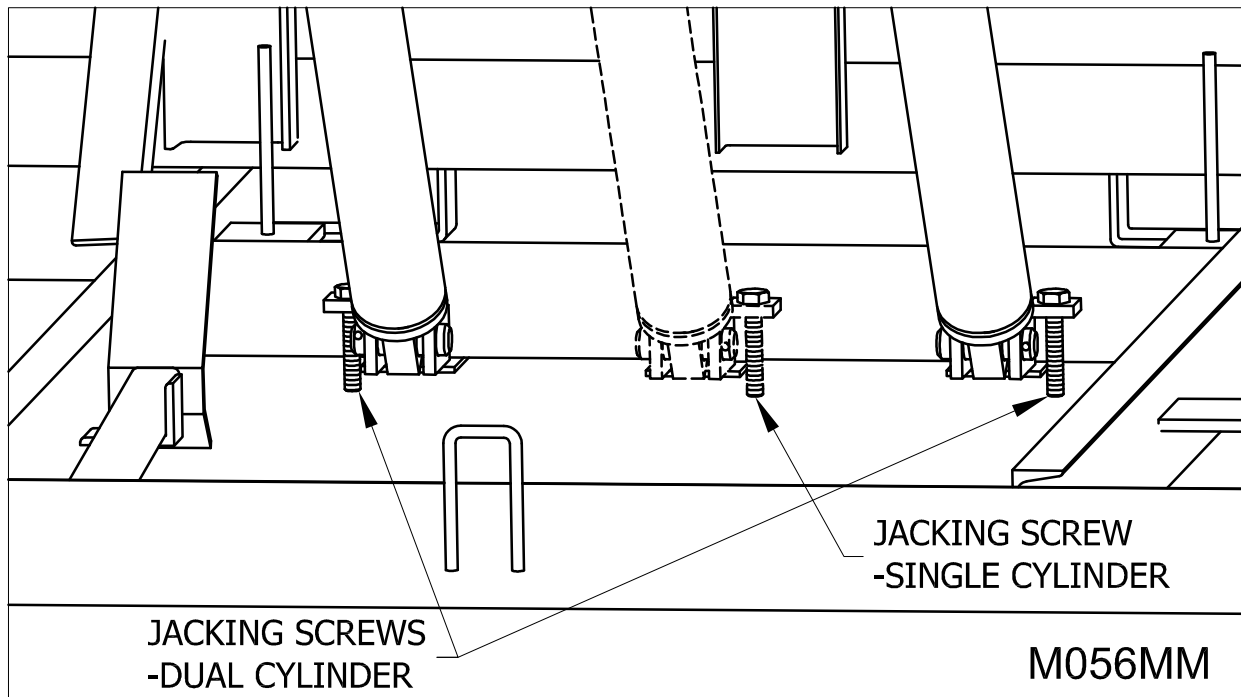

Figure 51: Jacking Screw(s)
1. ___ Jacking screw(s). (See “Figure 51: Jacking Screw(s)” on page 40)